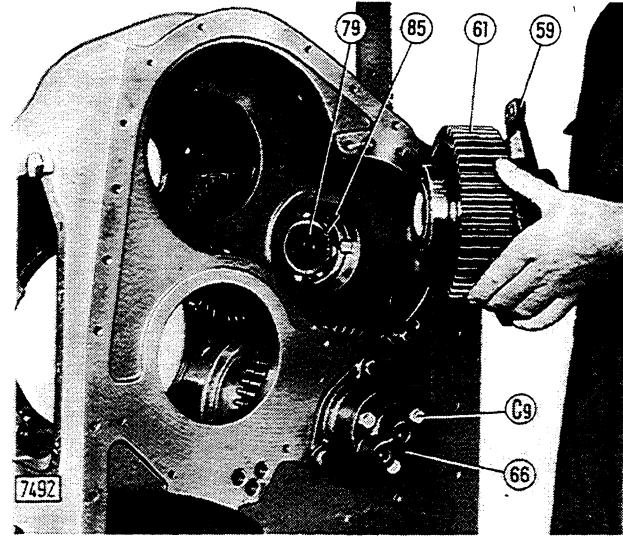

Fig. 18 - Disassembling bracket (59) with attached drive gear (61).
- Install first thrust ring (**43, Fig. 18**) and idler gear (**42**).